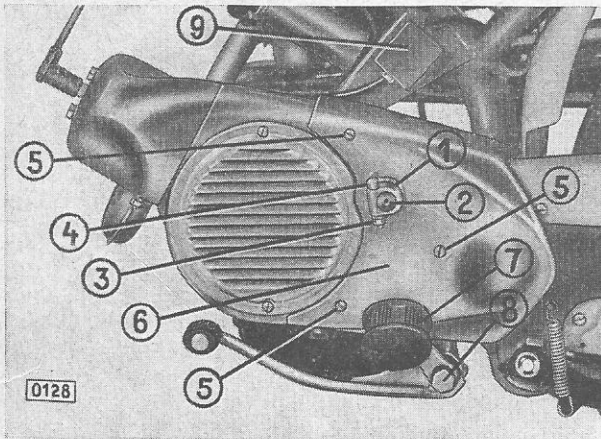
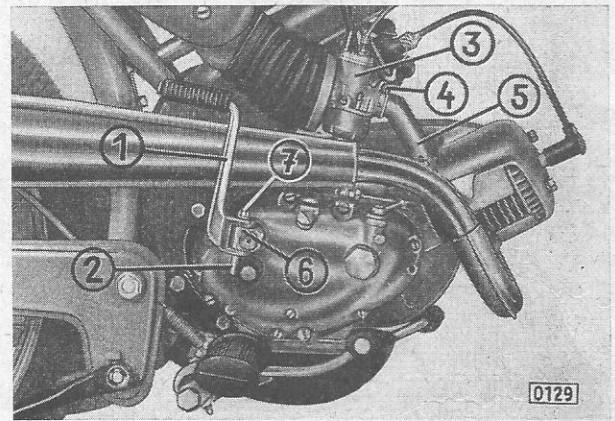

Fig. 1: Removing the engine from the frame:
Fig. 2: Removing the engine from the frame:
Take down hub (fig. 1/1) of kickstarter shaft (fig. 1/2), remove nut (fig. 1/3) from key, knock out key (fig. 1/4) (with copper piece). Slacken the three screws (fig. 1/5) and take down casing (fig. 1/6) after loosening and turning down the foot rest (fig. 1/7) and (fig. 1/8). Take down kickstarter (2/1) crank after removing the key (fig. 2/2).
3. Squeeze off protecting cap (fig. 1/9) of cable sockets by means of a screw driver and pinch off cables. Pull off spark plug socket.
5. After slackening the binding screw (fig. 2/4), pull carburettor (fig. 2/3) off the carburettor socket piece (fig. 2/5).